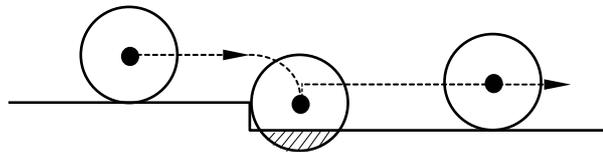

Fig 3-26 Over-cutting (Shaded area)
6. When cutting a stepwise work-piece with a step value smaller than the tool radius, over-cutting may occur as shown in Figure 3-26.